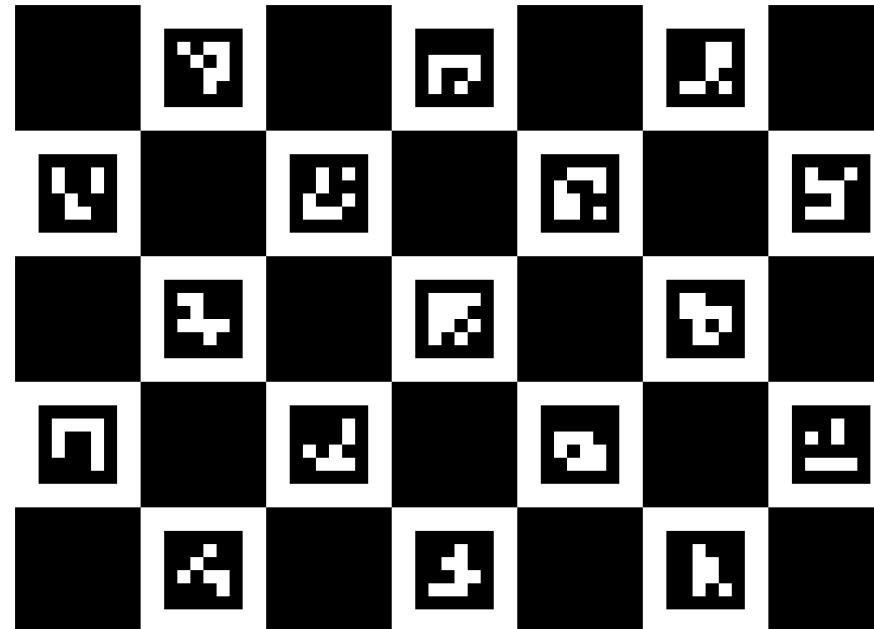

Figure 6: ChArUco board for camera calibration.
- Print the marker board in Fig. 6 on a snow-white DIN-A4 paper. Use high-quality printer settings.